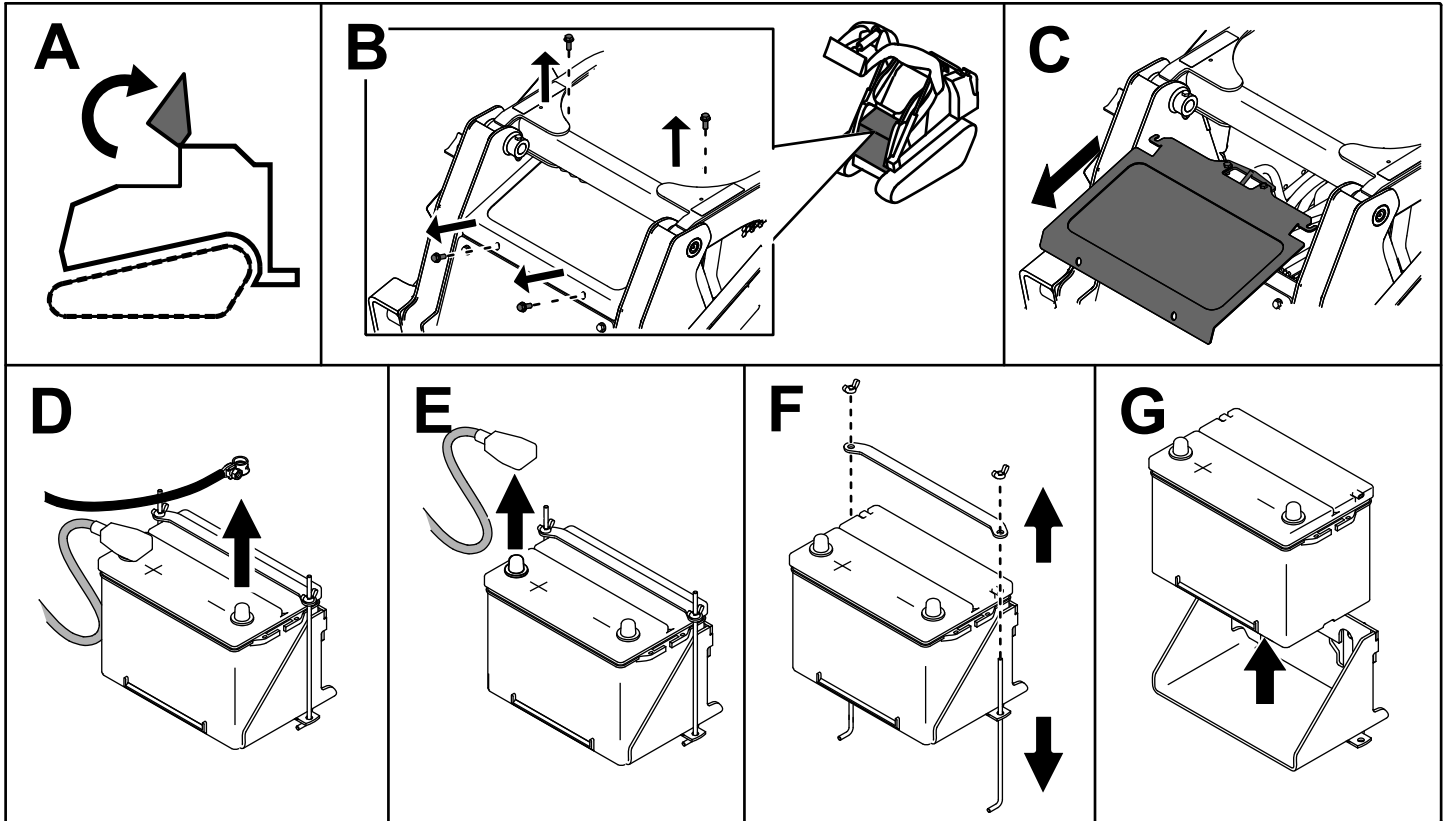

Figure 51
3. Remove the battery as shown in Figure 51.